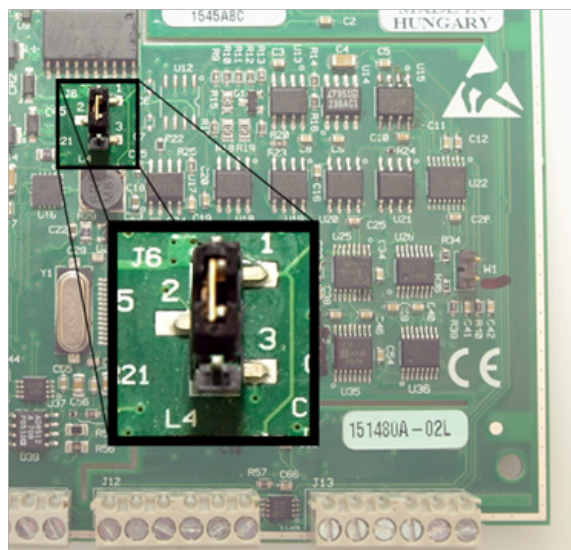

Figure 11. J6 jumper location
5. Configure jumper **J6** for either pull-up (pins 1-2) or pull-down (pins 2-3). The jumper is configured by default for pull-up. Figure 11 shows the location of the jumper on the board.